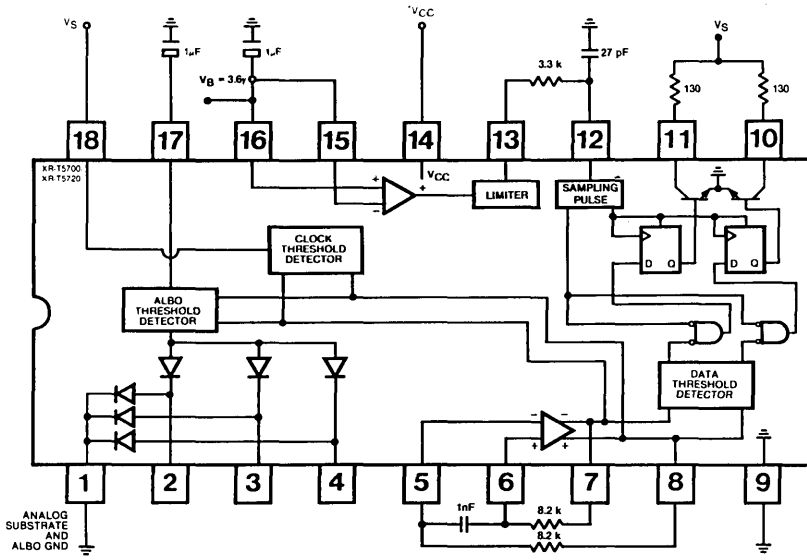

Figure 2. DC Parameter Test Circuit
AMPLIFIER (Ref. Figure 2, Only Pins 1, 9, 10...18 Connected)
CLOCK AMPLIFIER (Ref. Figure 2 Disconnect Pin 15 from Pin 16)
ALBO (Ref. Figure 2)
2. At 1 MHz, use Figure 2.